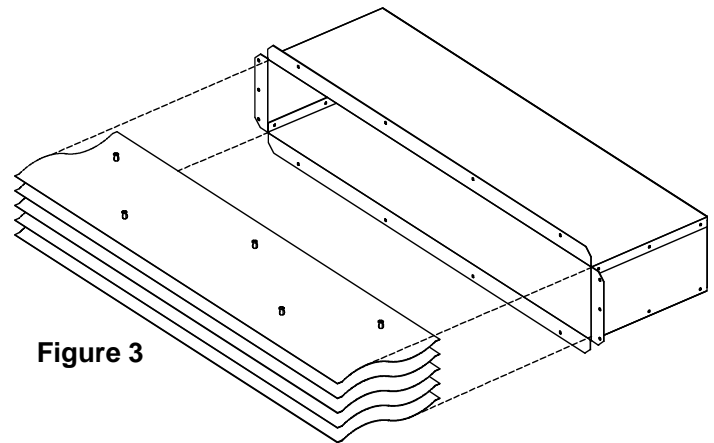

Figure 3
4. Assemble the Light Trap Extrusions which accompany this kit according to instructions which are included with the Light Trap Extrusions. Insert the assembled Light Trap Extrusions into the Air Inlet as shown in **Figure 3**.